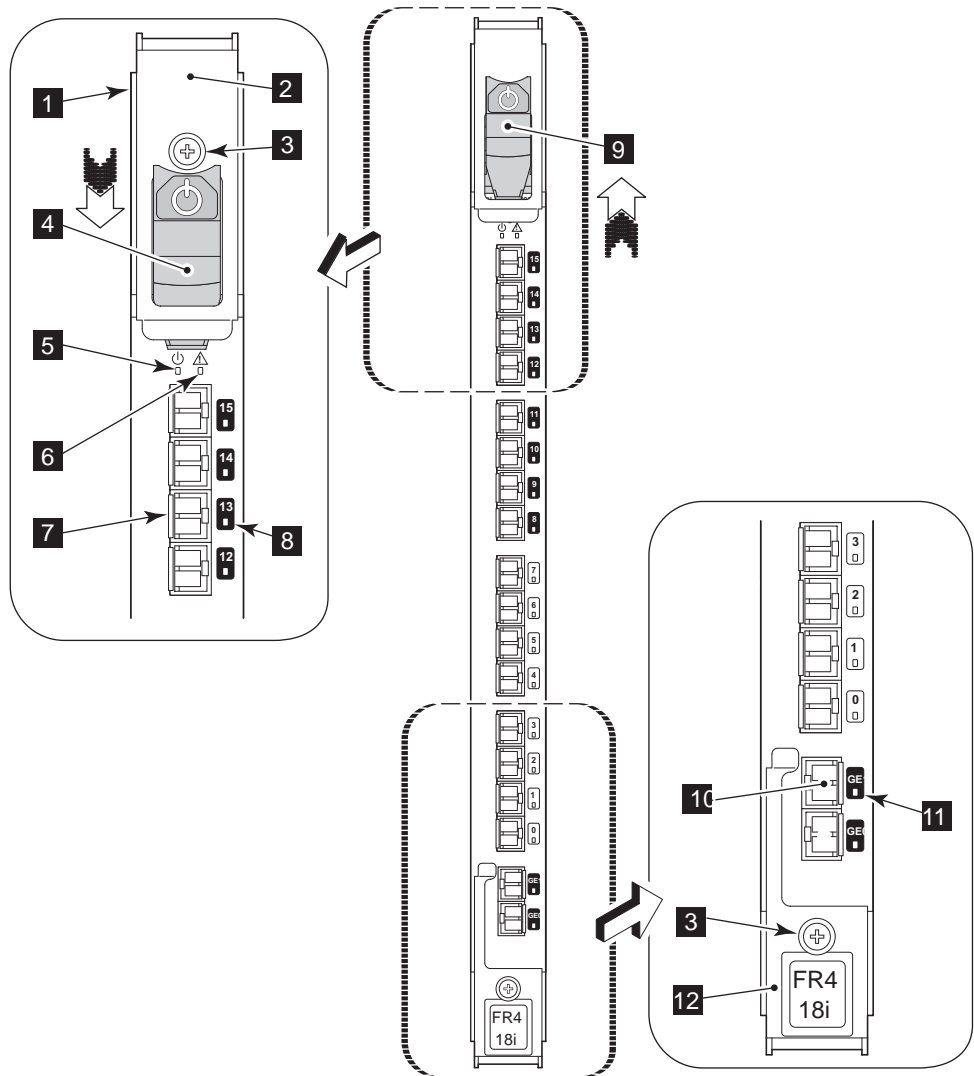

Figure 30. FR4-18i router blade and components
- Using Figure 30 as a guide, check the power LED , status LEDs, and port status LEDs to identify any possible problems with the router blade.
To install an FR4-18i router blade, complete these steps (refer to Figure 30 on page 71 for blade component locations):
8. Power on the blade using the power switch at the top of the blade (**9** in Figure 30 on page 71). Keep the blade in an offline (disabled) state until the ports are configured.